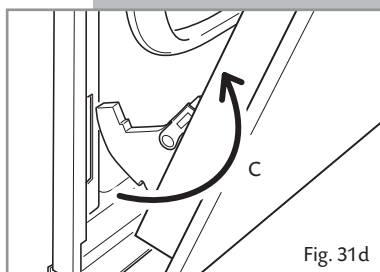

Fig. 31d
- Withdraw the hinge hooks from their location following arrow **C** (fig. 31d).